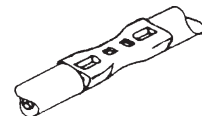

FIGURE 6
- 4.4 SEE FIG. 6 FOR A REPRESENTATION OF A CRIMPED NON-INSULATED SPLICE.